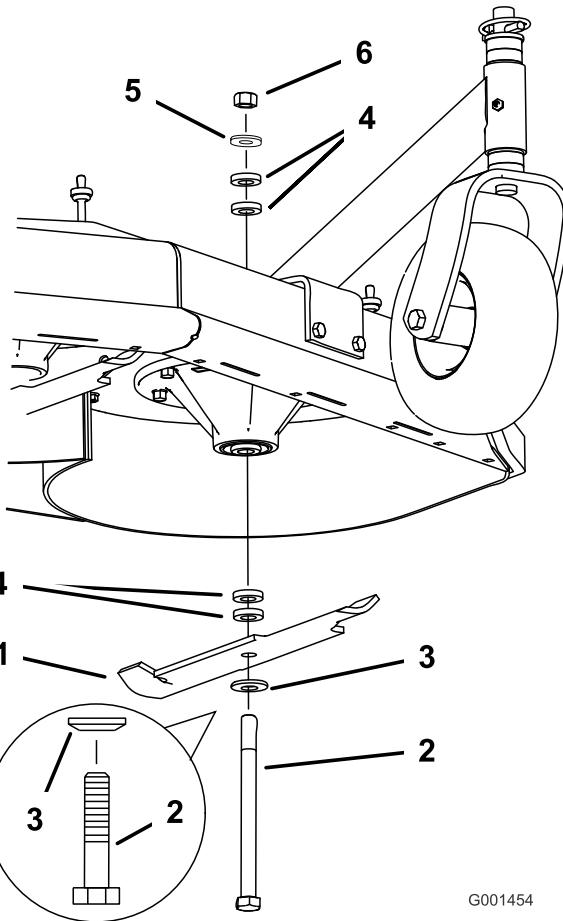

Figure 15
3. Hold the blade bolt and remove the nut. Slide the bolt down through the spindle, and change the spacers as needed (Figure 15).
4. Install the bolt, curved washer, blade, add extra spacers, and secure them with a thin washer and a nut (Figure 15).